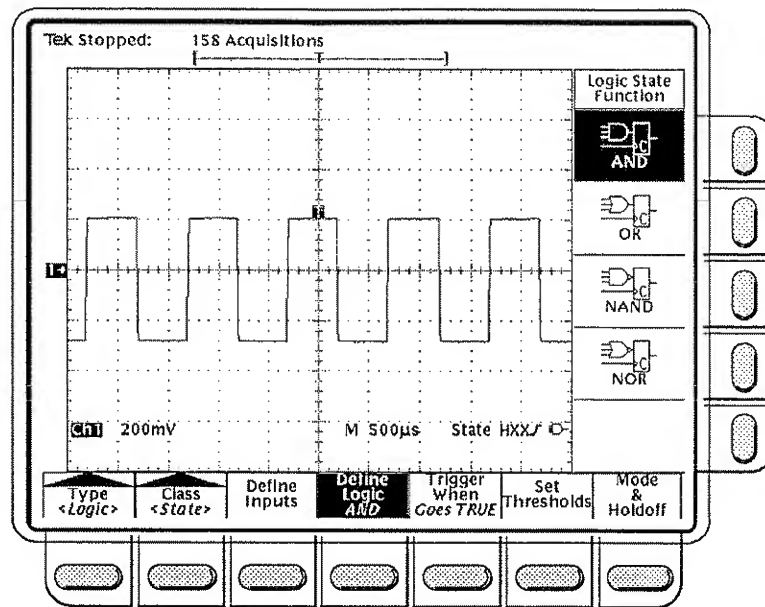

Figure 3-27: Setting the Logic State Function
**Define Logic** — Operates the same as for the Pattern class described above. The choices are: **AND**, **OR**, **NAND**, and **NOR**. The Logic State Function side menu is shown in Figure 3-27.